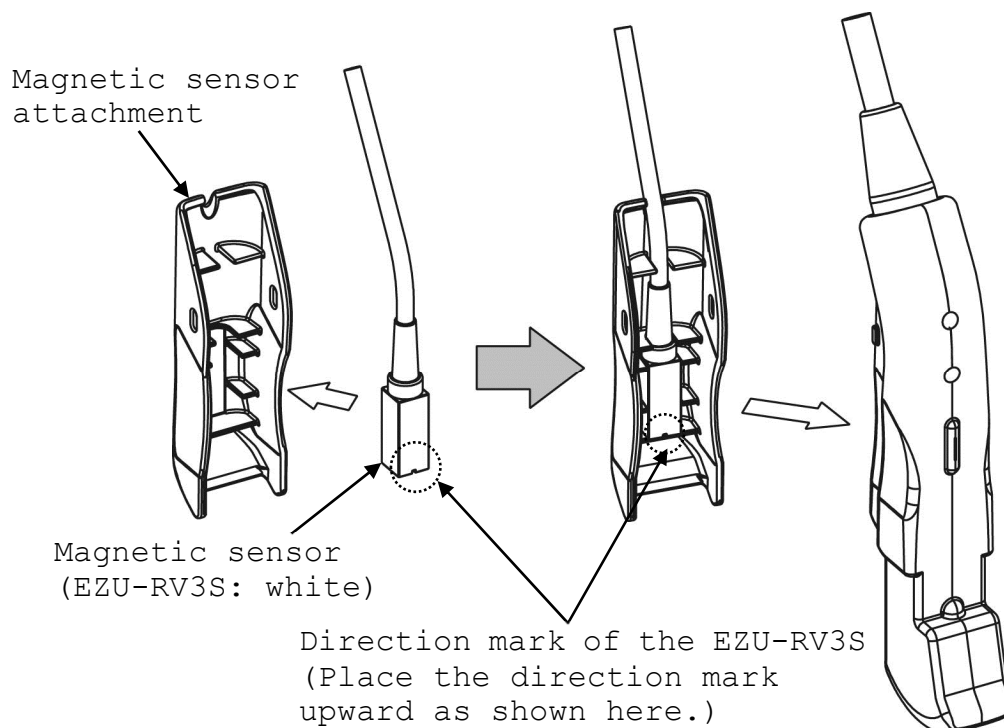

Fig. 18 How to attach the Magnetic Sensor Attachment
- 1) Attach the Magnetic sensor into the attachment with the correct direction as shown in Fig. 18.